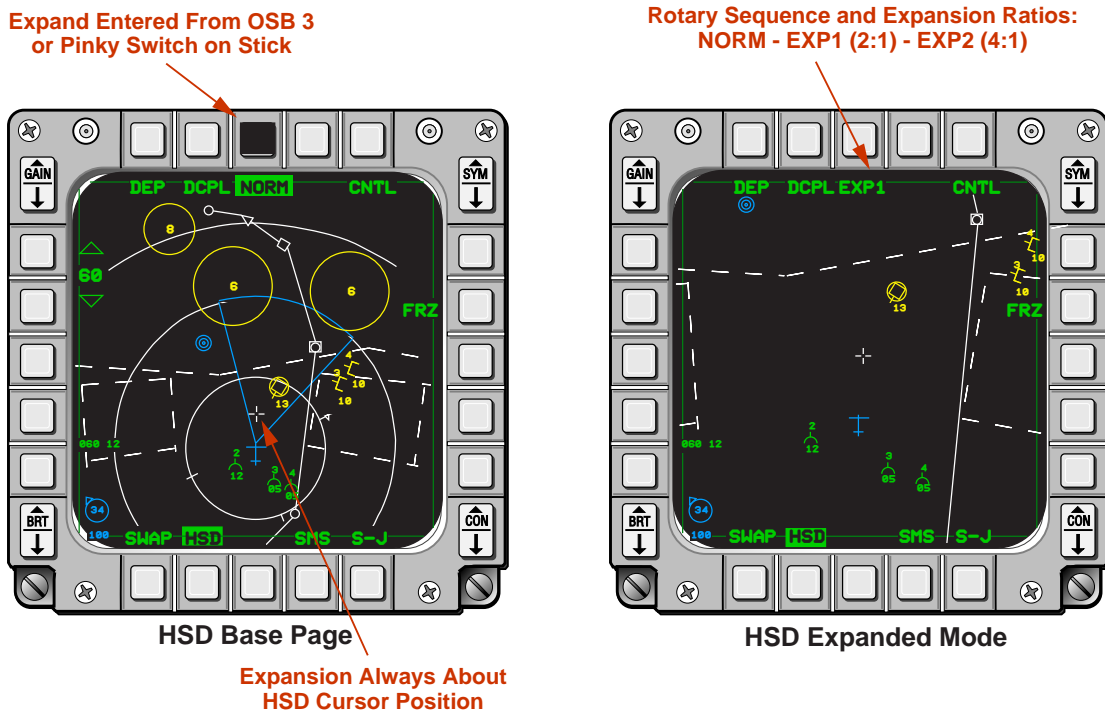

Figure 1-20 Expand Feature
**Expand Feature.** OSB 3 and the “pinky” switch on the stick provide a three function expand feature about the HSD cursor position (Figure 1-20). The expand rotary is NORM, Expand (EXP)1 (2:1 expansion), EXP2 (4:1 expansion) and is only available when the HSD is the SOI. The expanded patch will fill the entire display area. The cursor will be placed at the center of the patch and can be slewed throughout but not off of the patch. The display format and symbology remains dynamic, however the following symbology will not be displayed while in expand: